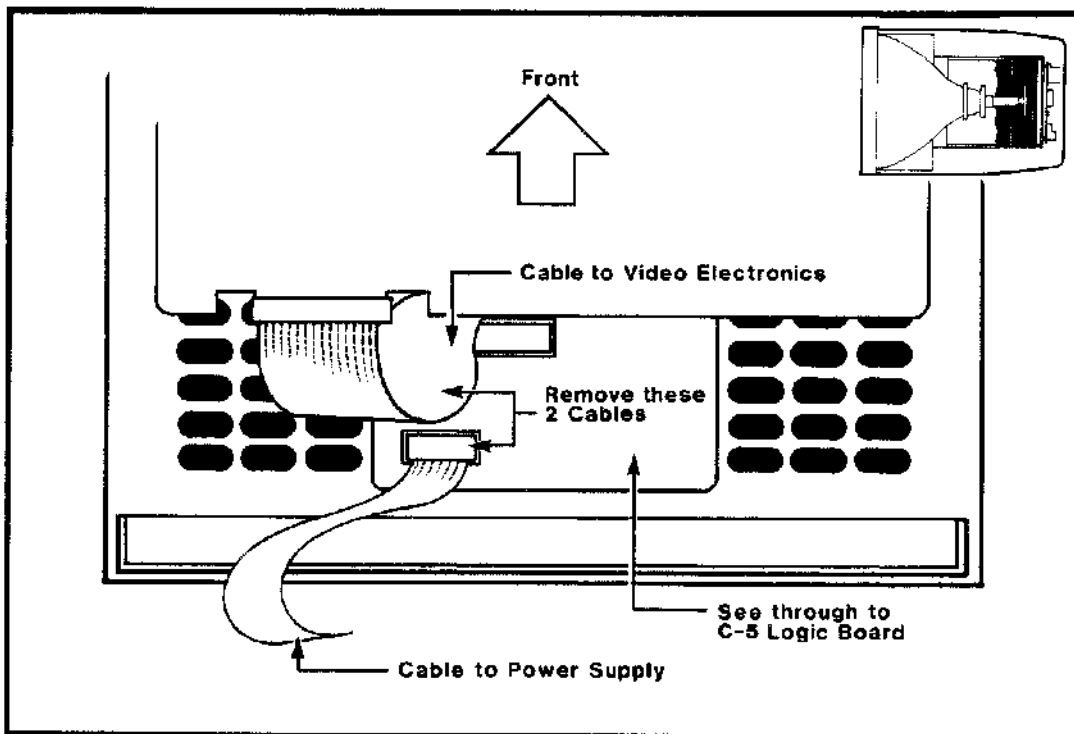

Figure 6-5: REMOVING THE C-5 LOGIC BOARD
3. Look into the logic board connector access area and locate the large video cable and the smaller power cable (Figure 6-5). Remove the two cables, first noting their respective orientation. The cables are polarized to prevent improper connection, but forcing them may render the polarization useless.